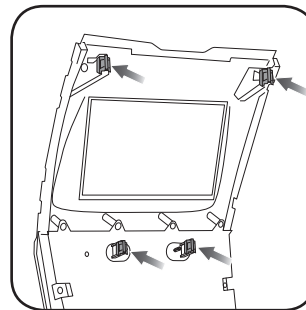

Fig. 3.5
5. Install the four metal clips and rubber stops on to the back of the bezel. (Fig. 3.5)